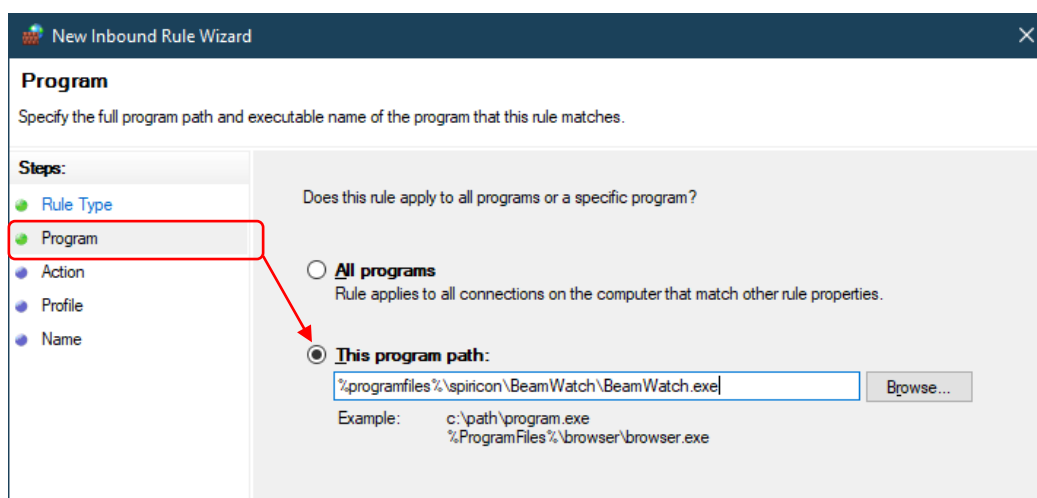

Figure 129: New Inbound Rule Program Page
4. On the **Rule Type** page, select **Program** (Figure 129).